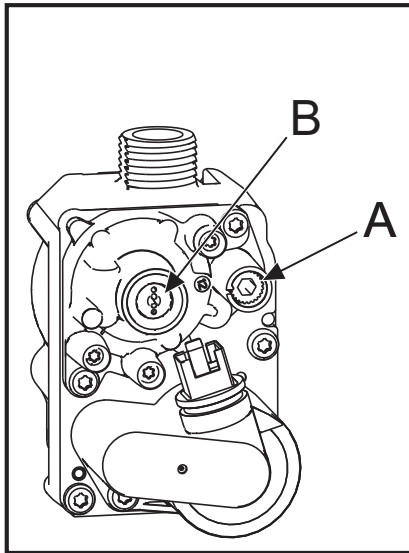

fig. 31 - Gas valve
3. Now adjust the **Throttle setting** (fig. 31 - screw **A**) until the CO2 is at the correct **SETTING LEVEL** (see table 4), confirm that the CO/CO2 ratio is within limits.
2. Now adjust the **offset pressure setting** (fig. 31 - cup **B**) until the CO2 is at the correct **SETTING LEVEL** (see table 5), confirm that the CO/CO2 ratio is within limits.